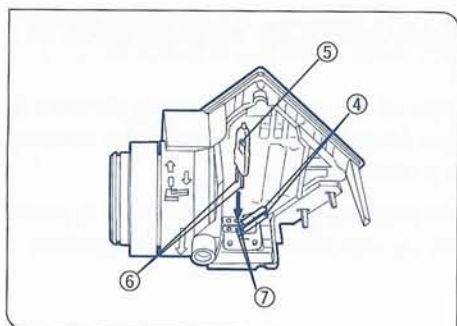

Fig. 9
4. Holding the bulb ⑤ with gloves or a piece of gauze, depress the bulb clamping levers ④ and insert the bulb pins ⑥ fully into the pin holes ⑦. Gently release the bulb clamping levers ④ to their original position to secure the bulb. (Fig. 9)